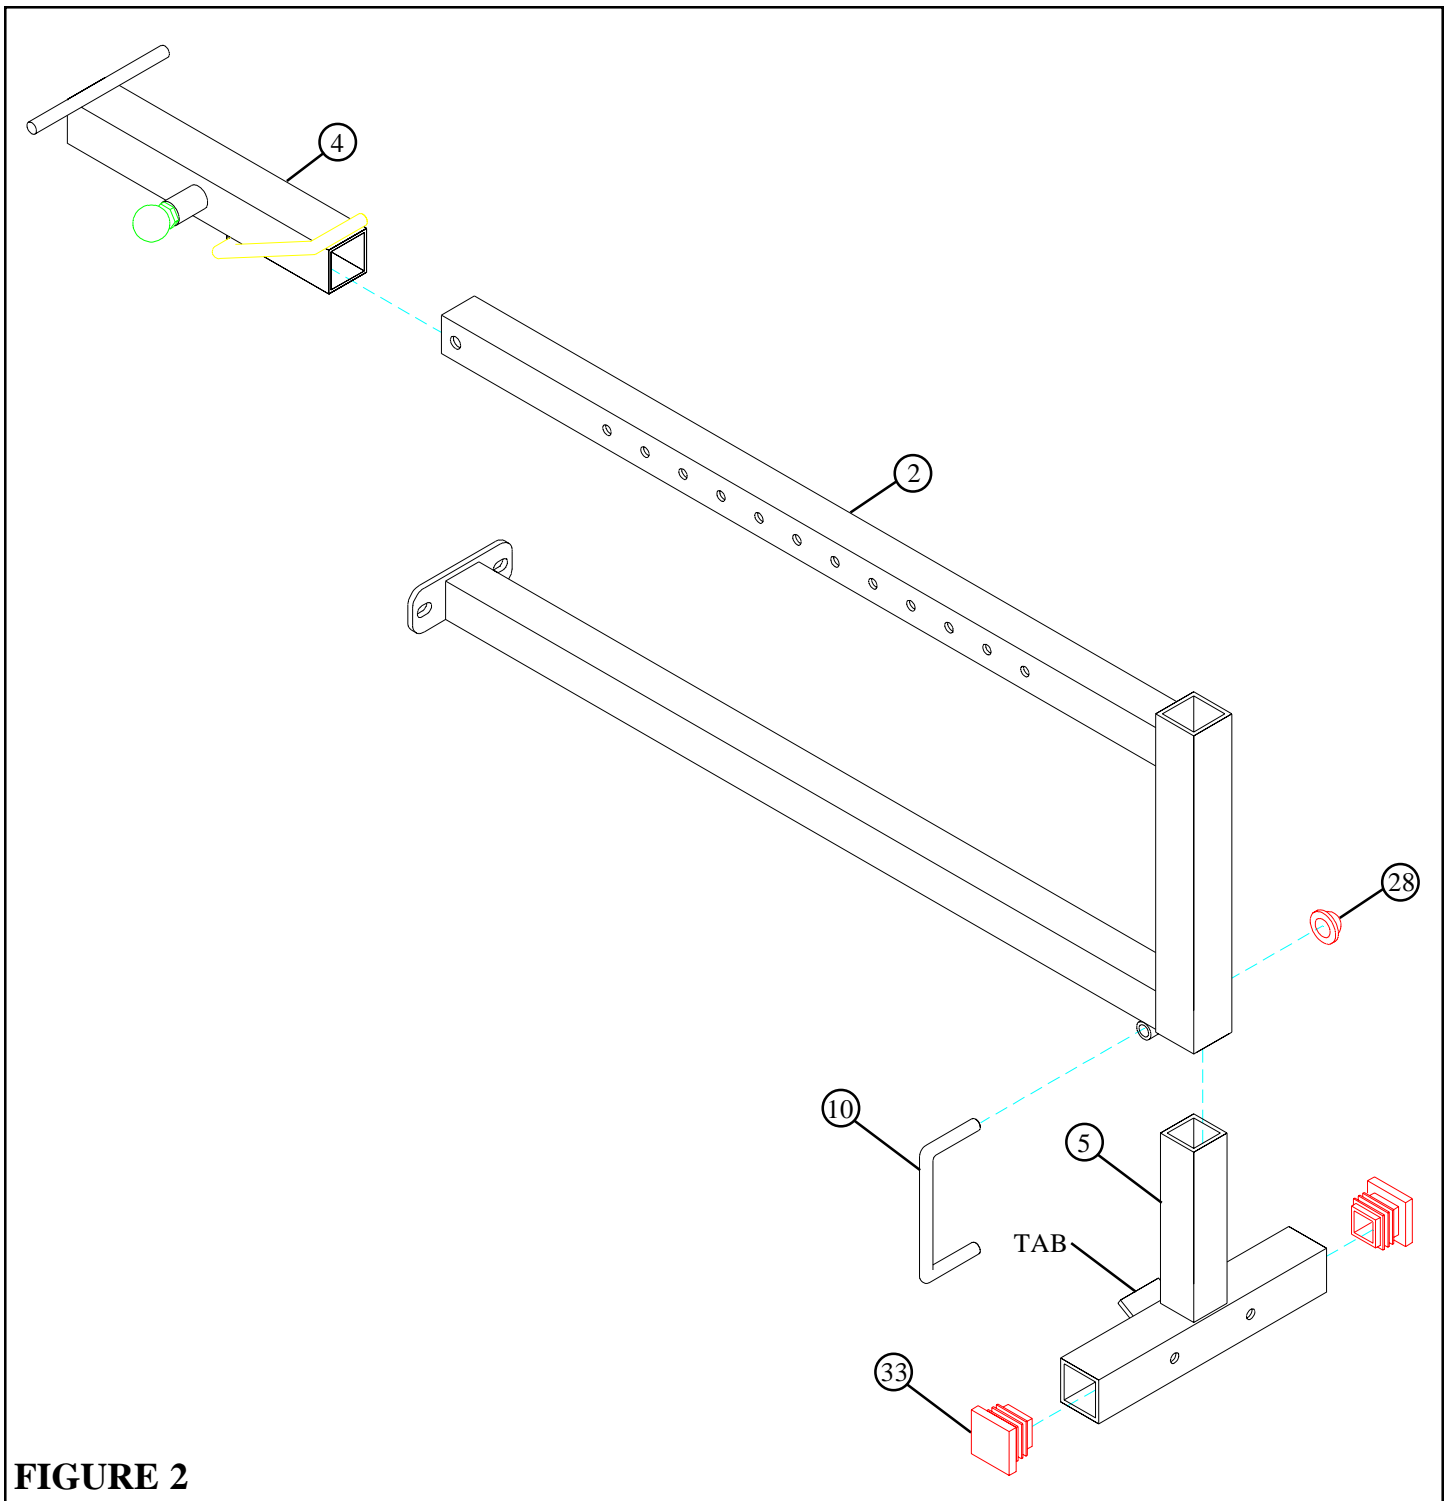

FIGURE 2
- Pull back the SPRING PIN on the WOLFF SLEEVE (4) and slide it over the end of the BENCH FRAME (2) as shown in FIGURE 2. Engage the SPRING PIN into one of the adjustment holes.
- Insert two 2" SQ. END CAPS (33) into both ends of the BASE LEG (5) as shown in FIGURE 2.
- Insert one U-PIN (10) through the BUSHING on the bottom of BENCH FRAME (2) and attach one PAL NUT (28) to the end of the U-PIN (10) as shown in FIGURE 2.
- Insert the BASE LEG (5) into the front of the BENCH FRAME (2) as shown in FIGURE 2. **(MAKE SURE THAT THE TAB ON THE BASE LEG IS UNDER THE BENCH FRAME)**